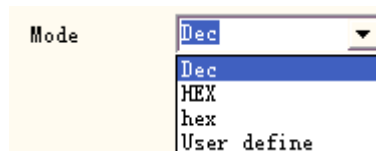

Figure 4-36 Serial number mode
**Mode:** The mode current series number used, see the figure 4-36.